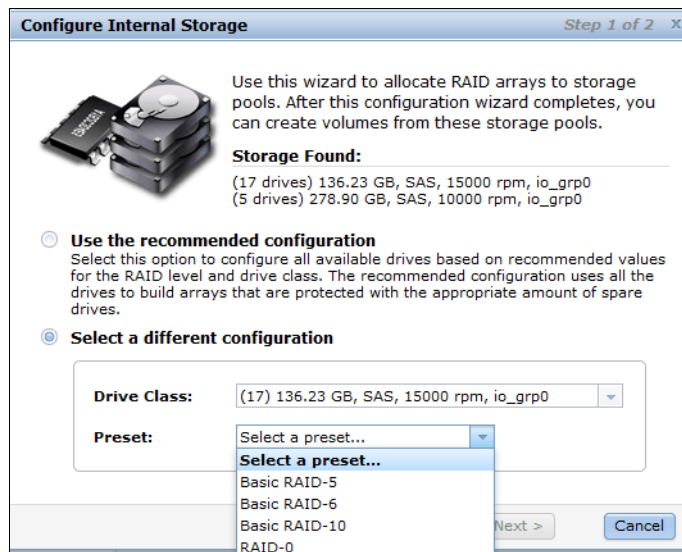

Figure 8-17 Select a RAID preset
2. Click **Next** and select an appropriate RAID preset (Figure 8-17) and click **Next**.